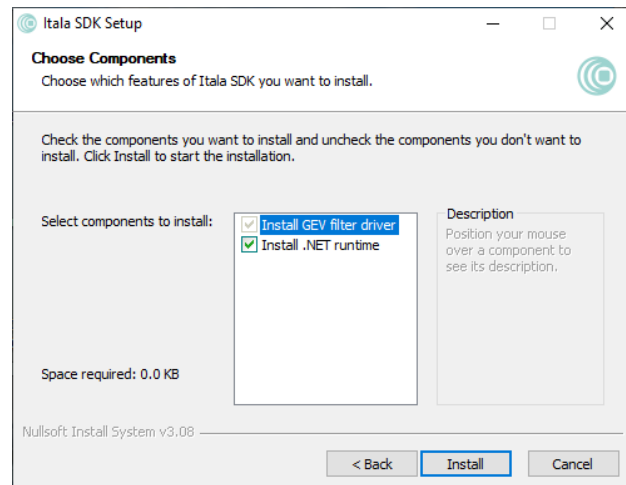

Figure 25: Components selection window.
5. Select the components which need to be installed (Fig.25). In case of installation of the filter driver only, step 6 can be skipped.